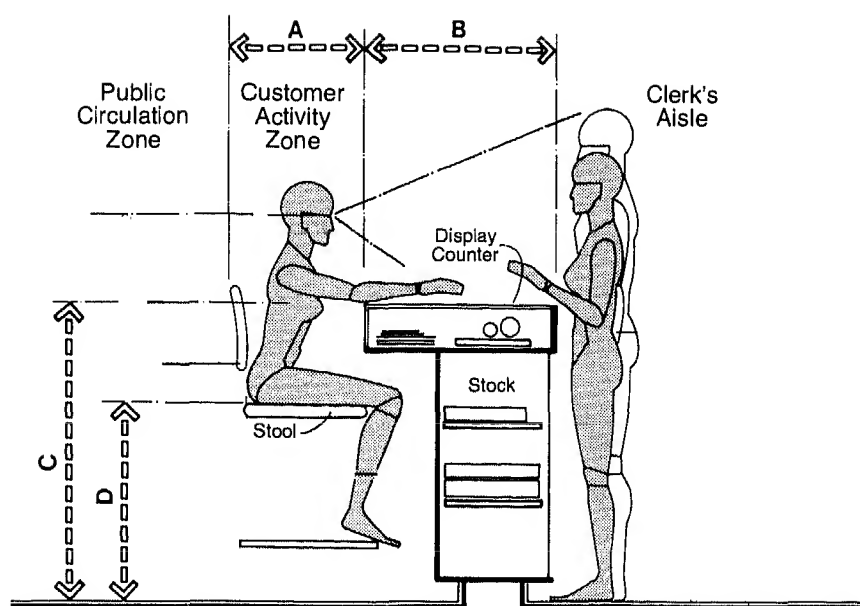
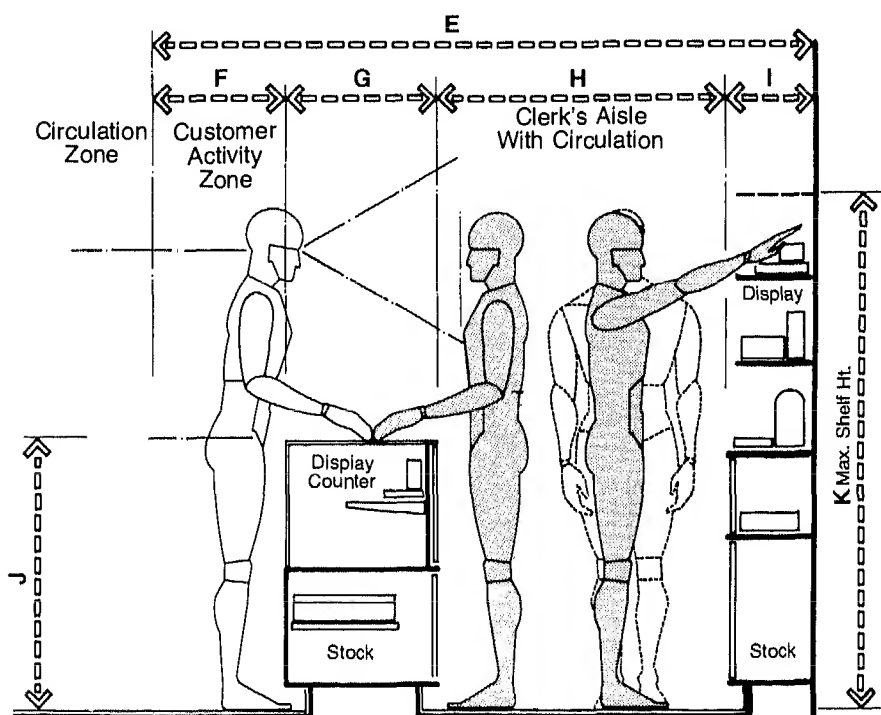

Fig. 1 Seated customer/high counter height.
Fig. 2 Typical sales area/standing customer.
Fig. 1 (a) Uris Brothers Hotel, New York. (b) Americana Hotel, New York, typical tower room. (c) Loews N.Y. Motel, typical room. (d) Causeway Inn, Tampa, Florida.
Fig. 2 Guestroom plans. (a) Typical double-double finishes plan: vinyl wallcovering (WC), paint (P), carpet (C), ceramic tile (CT) identified and keyed to legend. (b) King-studio (Holiday Inn): standard layout with armoire unit and large lounge area including a convertible sofa. (c) Reversed layout (Sheraton, Washington, D.C.): unusual room with bed placed in front of window and lounge area near bathroom. (d) Luxury king room (Sheraton Grande, Los Angeles): oversized room with shelf/ledge in place of headboard, large desk surface, and lounge area; four-fixture bathroom.
Figure 1 shows the clearances involved for a 42-in, or 106.7-cm, high counter to service a seated user. By filling the recess with an additional display, however, the counter can also be used exclusively as a typical sales counter. It should be noted, however, that although sometimes used for special display situations, such a counter height is not recommended. Both the customer and the sales clerk of smaller body size would find coping with such a height uncomfortable anthropometrically, particularly when one considers that the counter would be higher than the elbow height of slightly over 5 percent of the population. From a merchandising viewpoint, where customer convenience is of paramount importance, it would be unwise to exceed 39 to 40 in, or 99 to 101.6 cm, as a counter height. In addition, the smaller sales clerk forced to tend such a counter for extended periods of time could be subjected to severe backaches and pains. Getting on and off a high stool for elderly and disabled people or those of smaller body size can be not only difficult, but hazardous. Figure 2 illustrates the clearances for a typical sales counter.